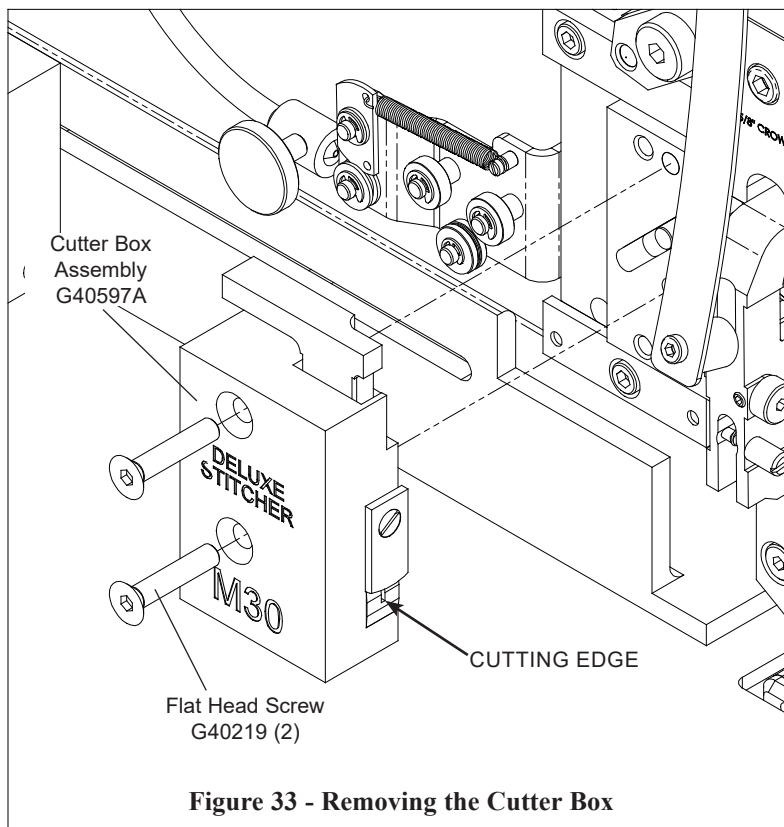

Figure 33 - Removing the Cutter Box
1. Remove the Cutter Box Assy as shown in Fig. 33.